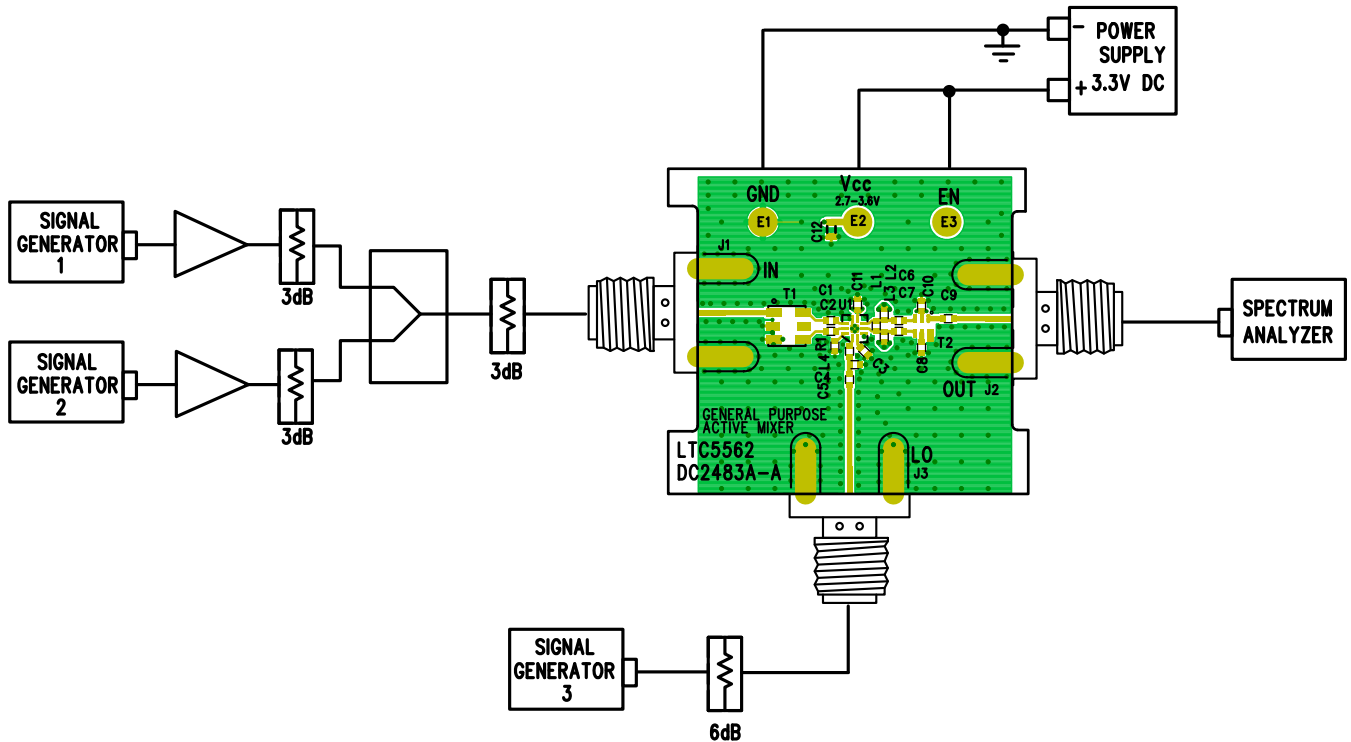

Figure 3. DC2483A-A Upconverter Two-Tone Test Setup
1. Connect all test equipment as shown in Figure 3.